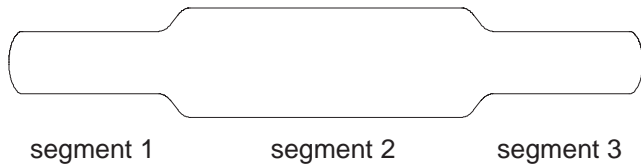
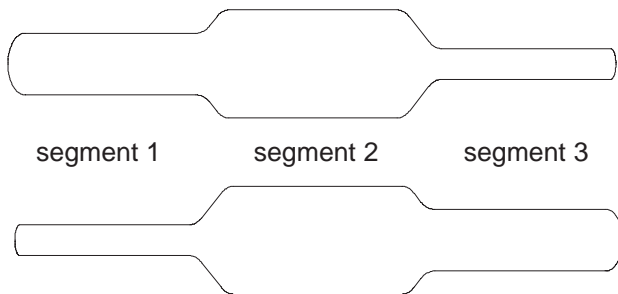

Fig. 18
Fig. 19
In order to set K_p and K_d , dispense material and check it to see if the bead or outlet pressure is even and stable (Fig. 18). A properly adjusted bead has equal segments and a smooth appearance. An even bead may be stable (Fig. 18) or unstable (Fig. 20).
K_p affects the evenness of the bead, K_d affects the stability of the bead. You must first adjust K_p and then adjust K_d . Fig. 19 shows uneven beads where K_p needs to be adjusted, Fig. 20 shows beads where K_p has been adjusted and now K_d needs to be adjusted.
3. If the 1st and 3rd segments are not the same, as shown in Fig. 19, increase Kp by 100 and examine the bead again. Continue to increase Kp in increments of 100 until either the beadwidths become equal as in Fig. 18, or until you reach 5000 Kp.
5. If the bead maintains its stability (Fig. 18 or Fig. 20), go to step 6.
6. If the outlet pressure maintains its stability (Fig. 18 or Fig. 20), go to step 7.